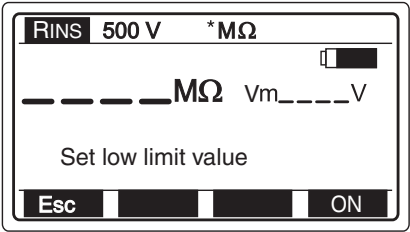

Figure 5: Menu for Setting Limit Values
- ▶ For setting the limit value first press function key F2 (Lim) to enter the menu for setting limit values, please refer to figure 5: